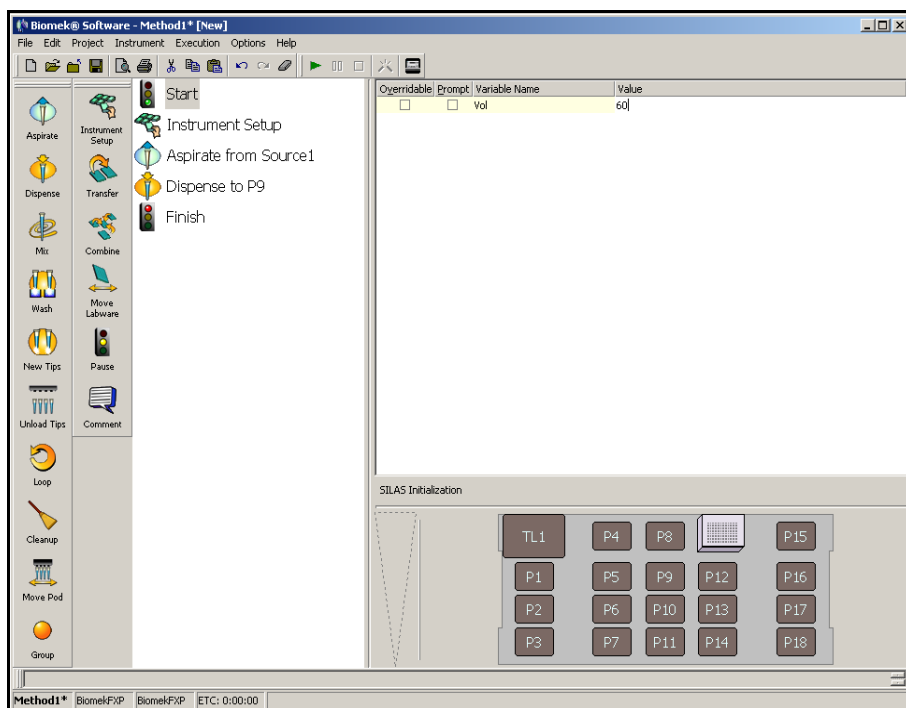

Figure 3-4. Vol variable created in the Start step
3. In **Value**, enter **60**. Your Start configuration should look like Figure 3-4. You have created a variable named *Vol* that has a value of 60.